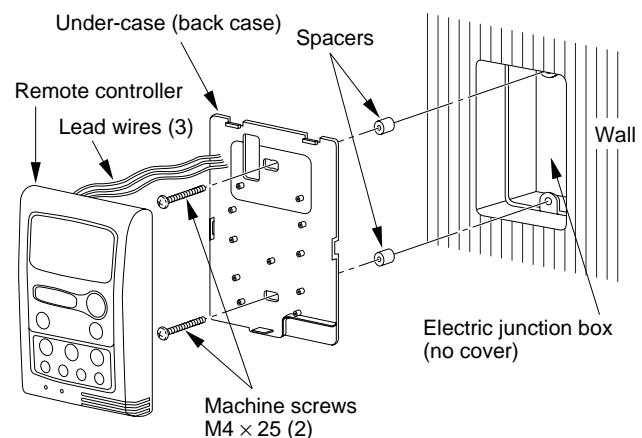

Fig. 1
- Use an electric junction box (supplied locally) for embedded mounting of the remote controller. (See Fig. 1)